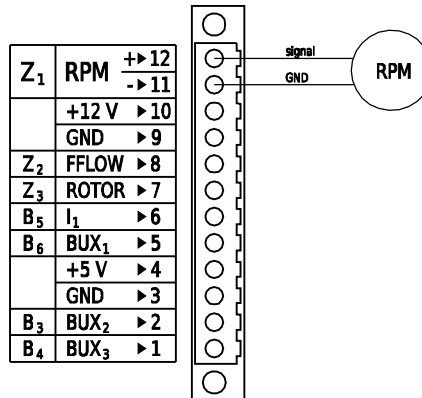

Figure 37: Engine RPM signal connection schema.
ECU unit has a digital engine RPM output. Two wires are used, signal is connected to " + " pin on Z1 channel and ground is connected to " - " pin on Z1 channel. See figure 37 for proper connection schema.
Two wires are used. One wire is connected to ”+“ pin on Z1 channel and the other wire is connected to ”-“ pin on Z1 channel. See figure 37 for proper connection schema.
Rotax (912) engines usually come equipped with a trigger coil for monitoring RPM. One wire is connected to ”+“ pin on Z1 channel and the other wire is connected to ”-“ pin on Z1 channel. See figure 37 for proper connection schema.